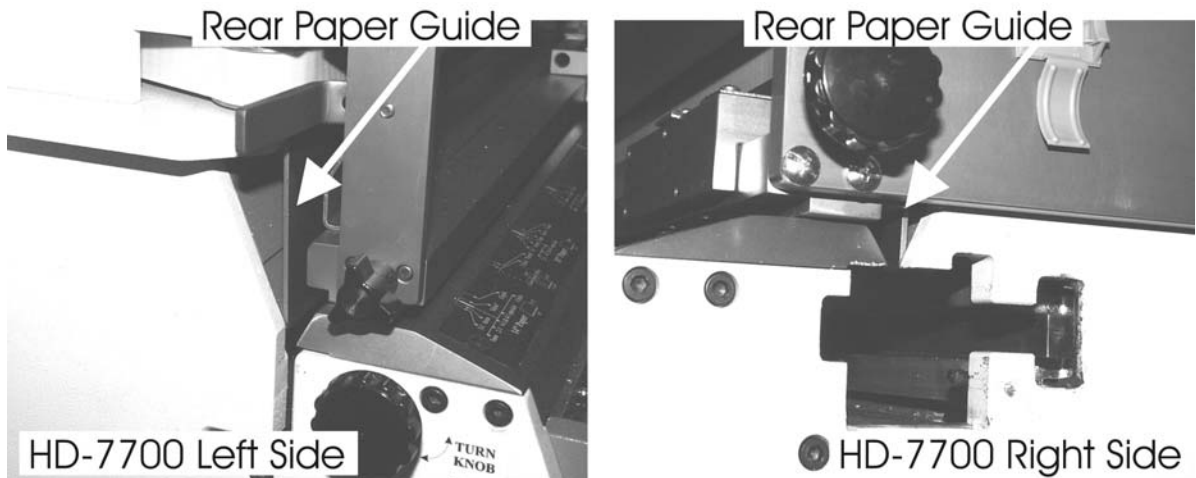

Fig F1
- **Notice the *Rear Paper Guide*** on each side of the machine in Figure F1;